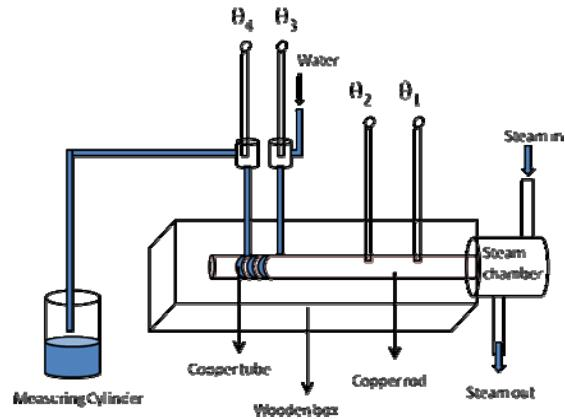

Fig.01
' m ' is the mass of water, 's' is specific heat of water, 't' is the time of flow of water in steady state, 'A' is the area of cross section of copper rod, 'd' is the distance between the thermometer T_1 and T_2 and $\theta_1, \theta_2, \theta_3, \theta_4$ are the temperatures of thermometer T_1, T_2, T_3 and T_4 respectively (Fig.01).
3. Mount the thermometers T_3 and T_4 as shown in Fig.01.
11. Calculate the coefficient of thermal conductivity (K) of given material of rod using given formula.